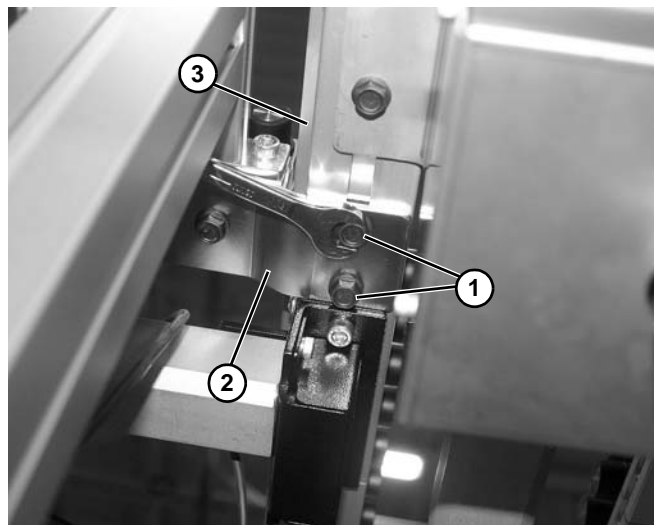

Figure 104
1. Remove two screws (**Figure 104, item 1**) securing bracket (**Figure 104, item 2**) to lift and transfer station (**Figure 104, item 3**).